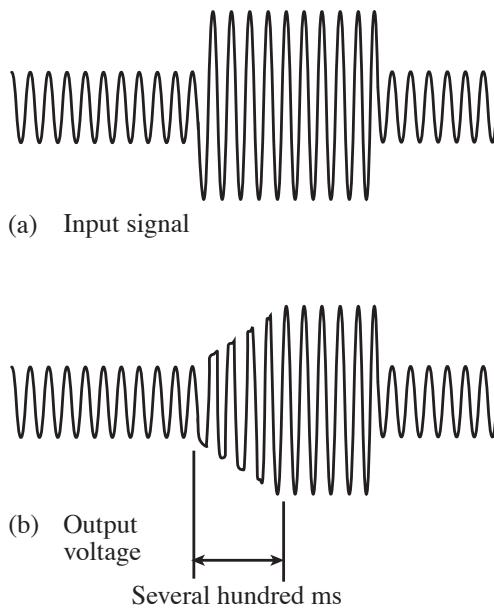

Fig.4-2 When the estimated maximum output voltage is not set
NOTE • Neglecting to set the estimated maximum output voltage will result in delayed response. For more information, see “■When the estimated maximum output voltage is not set (Fig. 4-2).”
■ When the estimated maximum output voltage is not set (Fig. 4-2)
In Fig. 4-2, (a) indicates an input signal and (b) shows the output voltage. For the output voltage, a response delay of several hundred ms in relation to the input voltage occurs. When $V_{op} > V_s$, a normal waveform is attained several hundred ms later.